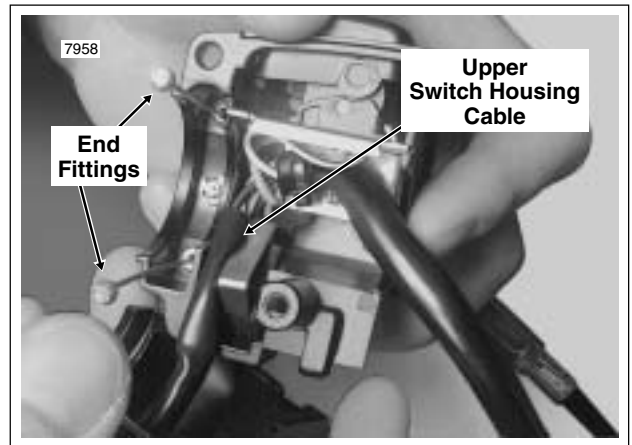

Figure 8-85. Route Cable to Upper Switch Housing
3. Route the cable to the upper switch housing as shown in Figure 8-85.